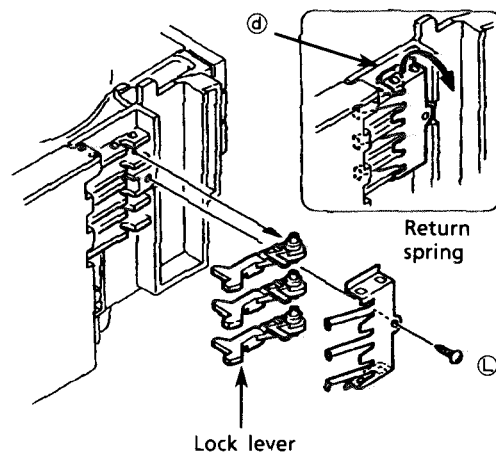
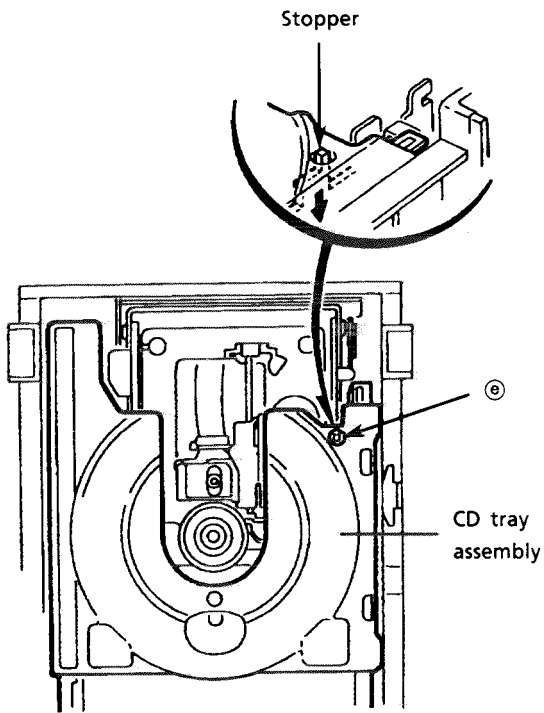

Fig.22
Fig. 23
7. Remove a screw ② which secures the return spring and lock levers from the chassis ass'y.(See Fig. 22.)
8. Remove 2 pawls ⑦ which slightly secure the return spring to remove it.
10. Check that the lifter unit stopper is inserted into hole ⑧ located on CD tray ass'y. (See Fig. 23.)